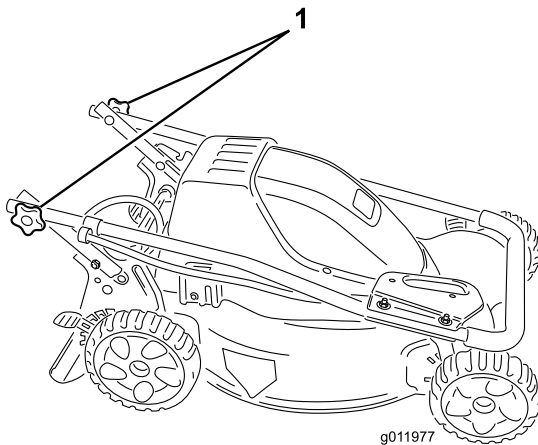

Figure 1
1. Loosen the handle knobs (Figure 1).